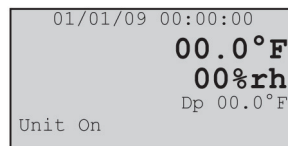

Figure 3-1. Main display screen.
3. After about 30 seconds the Main screen is displayed (see Figure 3-1). At the bottom of the screen a status message “Unit On” appears.